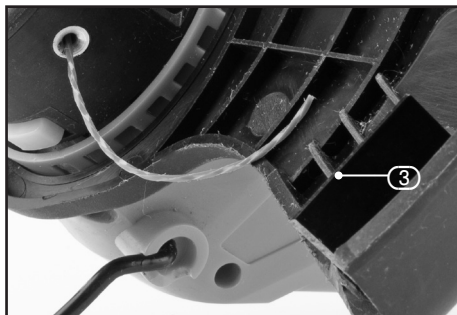

FIG.13
- Adjust the auxiliary handle (5) to the most comfortable working position.
10.3 HEAD ANGLE ADJUSTMENT – FIG.13